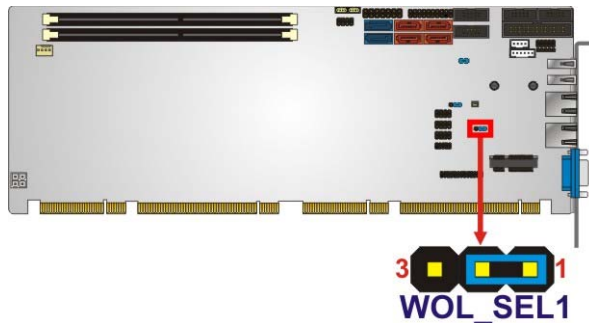

Figure 4-9: Wake-on LAN Connector Pinout Locations
- CN Location:** See **Figure 4-9**